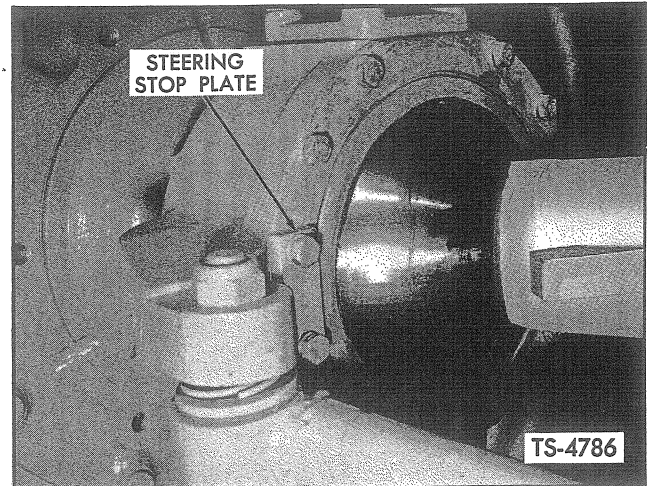

Fig. 37. Steering Stop Plate Adjustment
6. To adjust, shims should be inserted behind the Steering Stop Plate (See Figure 37).